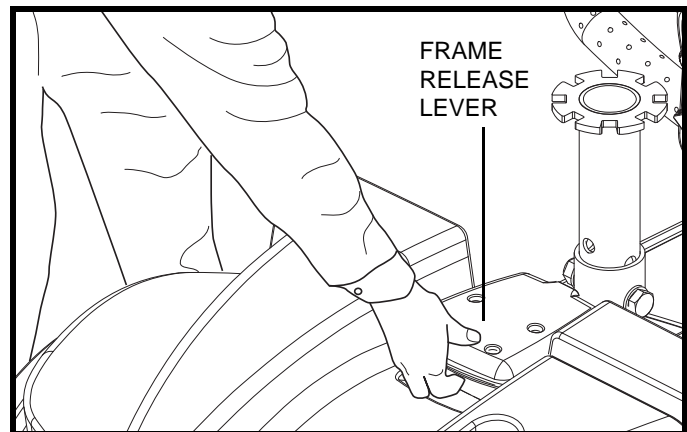

Figure 27. Frame Release Lever
3. Grasp and lift up on the frame release lever. See **figure 27**.